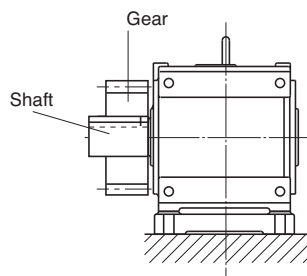
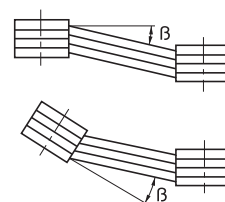

Fig. 6
Fig. 7
(2) When Using with Chain Sprocket and Gear
- Make the load point of sprocket and gear closer than the shaft center to the gearmotor or reducer side (Refer to Fig. 6).
(3) When Using with V-belt
- Make the parallelism and eccentricity (b) between two pulleys 20' or smaller (Refer to Fig. 7.)